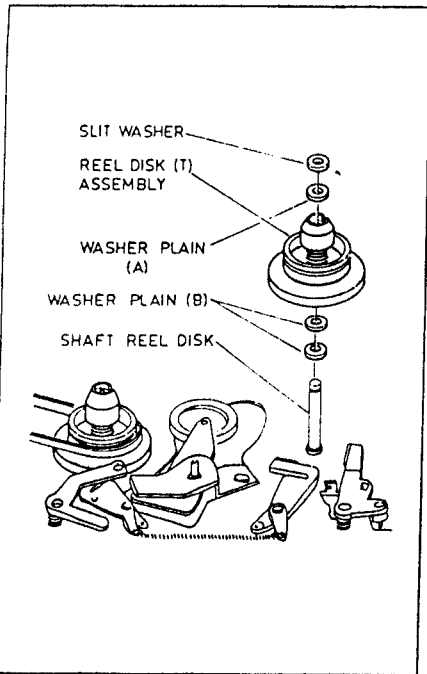

Fig. 34 Reel Disk (T) Assembly Removal
2-2-16. Reel Disk (T) Assembly Removal. (Fig. 34)